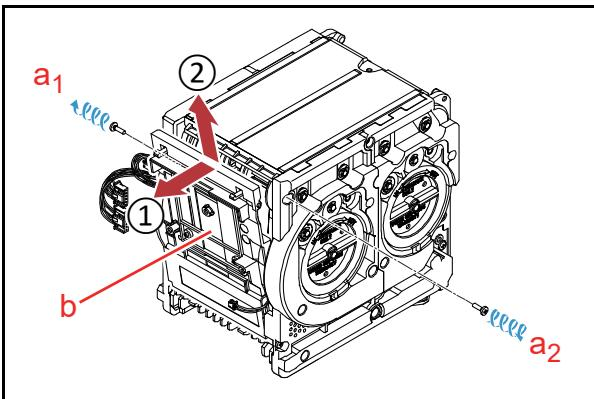

**Figure 4-92** Recycler Board Removal 5
6. Unplug the four (4) Connectors (Figure 4-92 **a1** through **a4**).
7. Remove the single (1) Screw (Figure 4-92 **b**) to remove the Recycler Board (Figure 4-92 **c**).